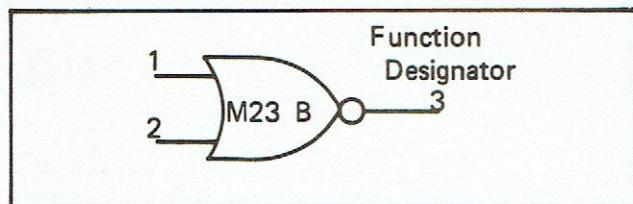

Figure 4E.3 - Function Designator
**4E.14 Circuit diagrams of integrated-circuit devices.** Circuit diagrams of the individual integrated-circuit devices, both analog and digital, do not appear on each schematic; rather, schematics in figures 4E.7 through 4E.18 describe all elements used.